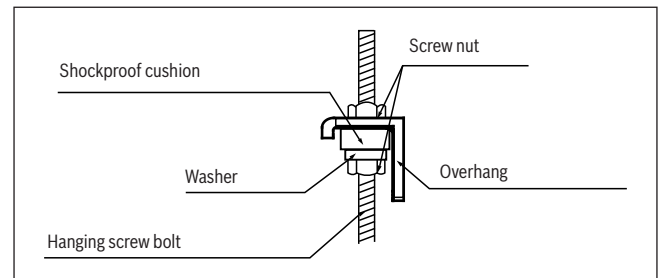

Fig. 9.
8. Mount the indoor unit onto the hanging screw bolts with a block. Position the indoor unit flat using a level indicator to prevent leaks. (See Fig. 9).